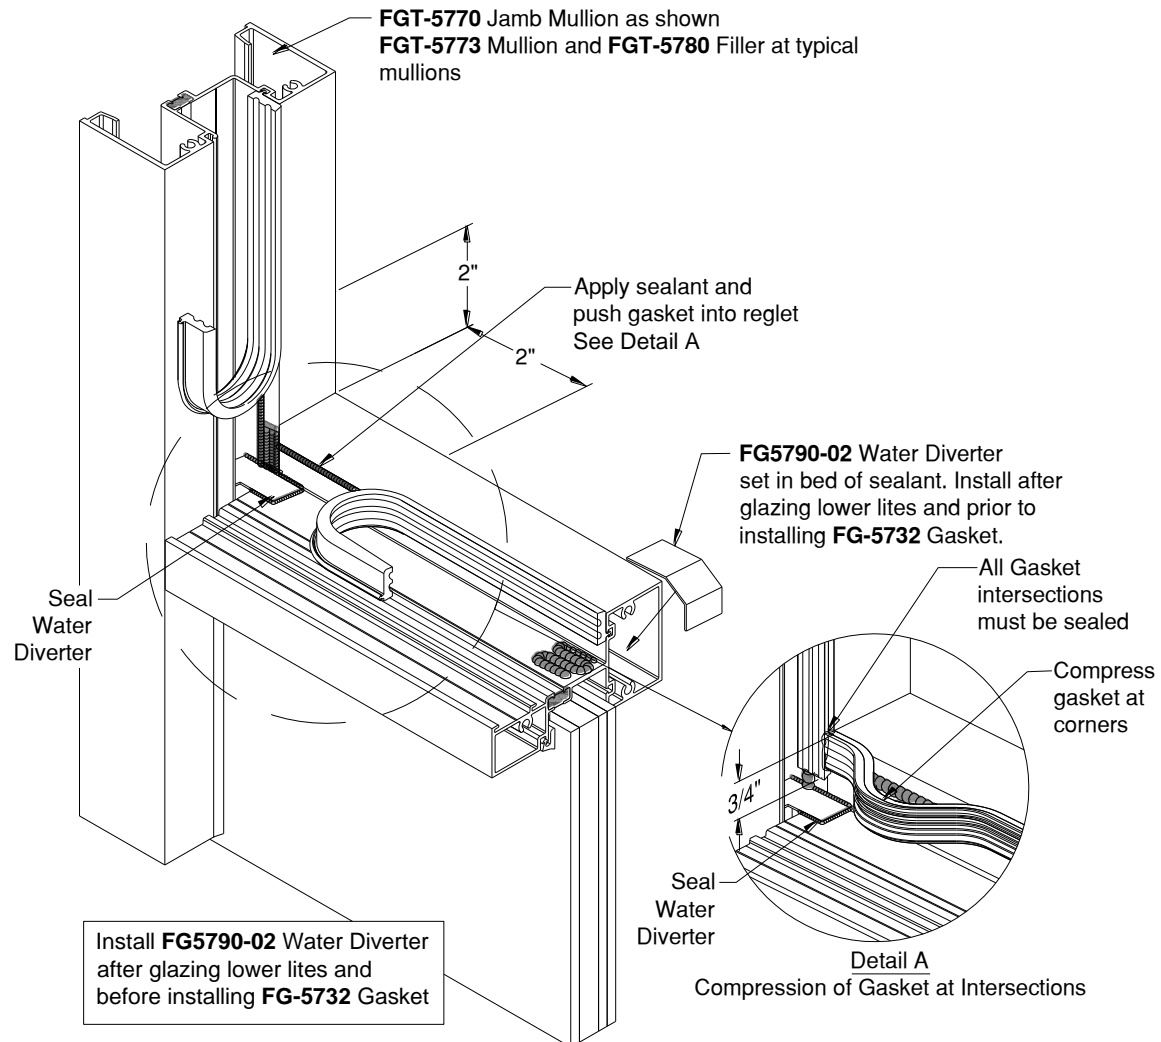

Figure 28: Dry Gasket Installation
NOTE: When installed, vertical Gasket runs through while horizontal Gasket butts into the vertical Gasket. See Figure 28, Detail A for representation of the Gasket corner.
17.1.5 After Gasket is installed, pull Gasket from pocket at corner junctions a minimum of 2", Figure 28.